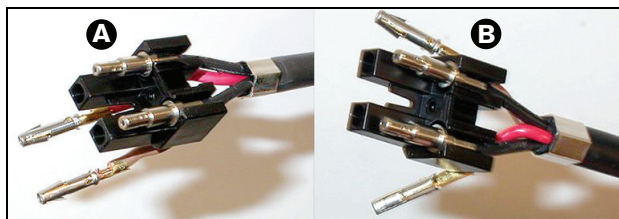

figure 30.32: Mounting block and back housing
- 27 Put the ferrules in the mounting block (see figure 30.32)